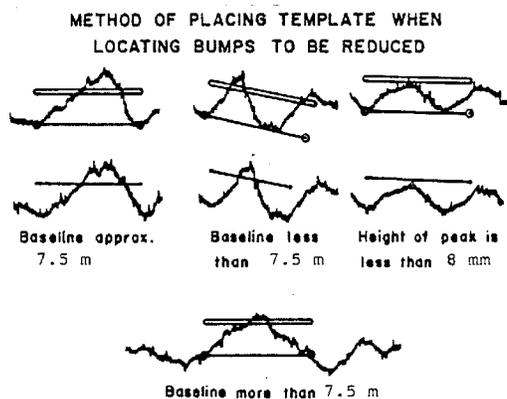

Figure 4
1. At each prominent peak or high point on the profile trace, place the bump template so that the scribe marks at each end of the scribed line intersect the profile trace to form a chord across the base of the peak or indicate a bump, as shown in Figure 4.